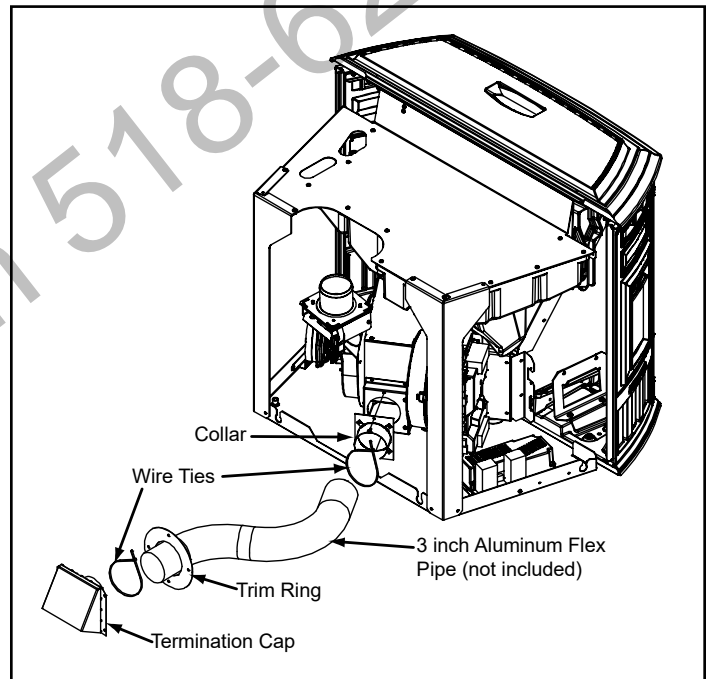

Figure 19.3 - Shown with Cast Panel Set
Remove the cast side by releasing the upper, spring-loaded latch (**Figure 19.3**). Access the latch through the upper panel vent holes. The cast panel should fall forward. Lift it out of its lower nest and set the panel aside.
3. Remove the 2 cast sides and slide the assembled trim over the assembled surround set (**Figure 19.3 on page 19**).